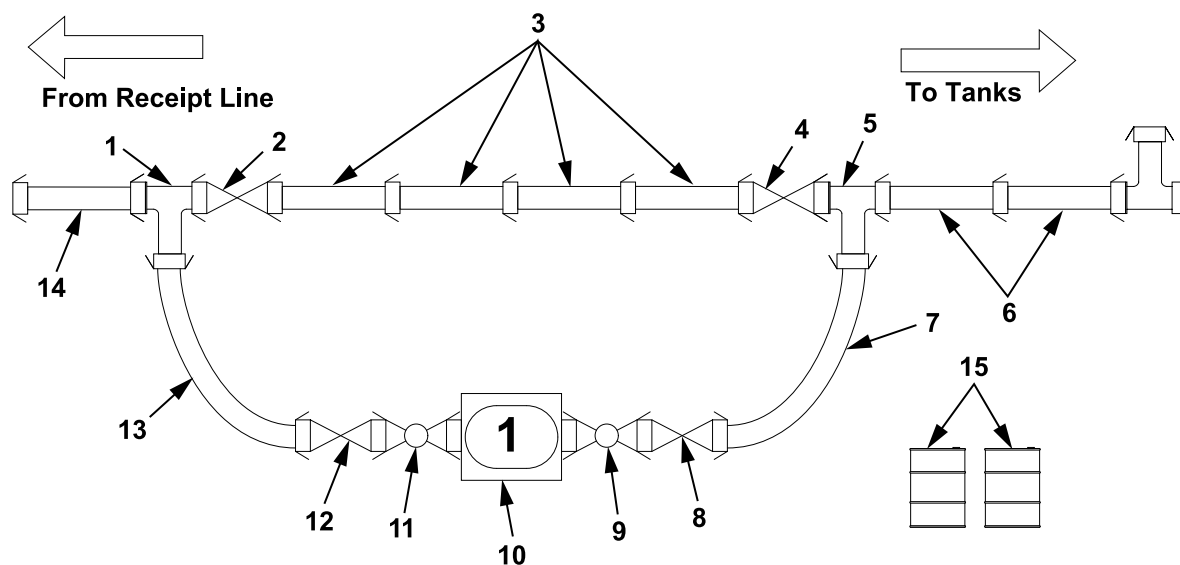

Figure 16. Installation of Fuel Additive Injection Assembly.
3. Connect two sections of 4 in. X 10 ft discharge hose (Figure 16, Item 6) to the female X male X male tee assembly closest to the last fuel tank constructed.
5. Connect the female X male X female tee assembly (Figure 16, Item 5) to the end of the 4 in. X 10 ft discharge hose (Figure 16, Item 6).
7. Connect the gate valve (Figure 16, Item 4) to ends of the female X male X female tee assembly (Figure 16, Item 5) in the direction of the direct tank fill line.
9. Connect four sections of 4 in. X 10 ft discharge hose (Figure 16, Item 3) to gate valve (Figure 16, Item 4).
10. Connect gate valve (Figure 16, Item 2) to four sections of 4 in. X 10 ft discharge hose (Figure 16, Item 3).
12. Connect the female X male X male tee assembly (Figure 16, Item 1) to gate valve (Figure 16, Item 2).
14. Connect one section of 4 in. X 10 ft discharge hose (Figure 16, Item 14) to the female X male X male tee assembly (Figure 16, Item 1).
16. Connect one section of 4 in. X 25 ft discharge hose (Figure 16, Item 13) to tee assembly (Figure 16, Item 1).
19. Connect gate valve (Figure 16, Item 12) to 4 in. X 25 ft discharge hose (Figure 16, Item 13).
20. Connect a 4 in. ball valve (Figure 16, Item 11) to gate valve (Figure 16, Item 9).
22. Place the spill containment berm on the ground where the fuel additive injection assembly (Figure 16, Item 10) is to be placed.
23. Using a forklift, place the fuel additive injection assembly (Figure 16, Item 10) in the spill containment berm.
24. Connect fuel additive injection assembly (Figure 16, Item 10) to 4 in. ball valve (Figure 16, Item 11).
25. Connect a 4 in. ball valve (Figure 16, Item 9) to fuel additive injection assembly (Figure 16, Item 10).
26. Connect gate valve (Figure 16, Item 8) to 4 in. ball valve (Figure 16, Item 9).
28. Connect the 4 in. X 25 ft discharge hose (Figure 16, Item 7) to gate valve (Figure 16, Item 8).
29. Connect the 4 in. X 25 ft discharge hose (Figure 16, Item 7) to tee assembly (Figure 16, Item 5).
31. Place one fuel spill control kit (Figure 16, Item 15) near fuel additive injection assembly (Figure 16, Item 10).
32. Ground the fuel additive injection assembly (Figure 16, Item 10).